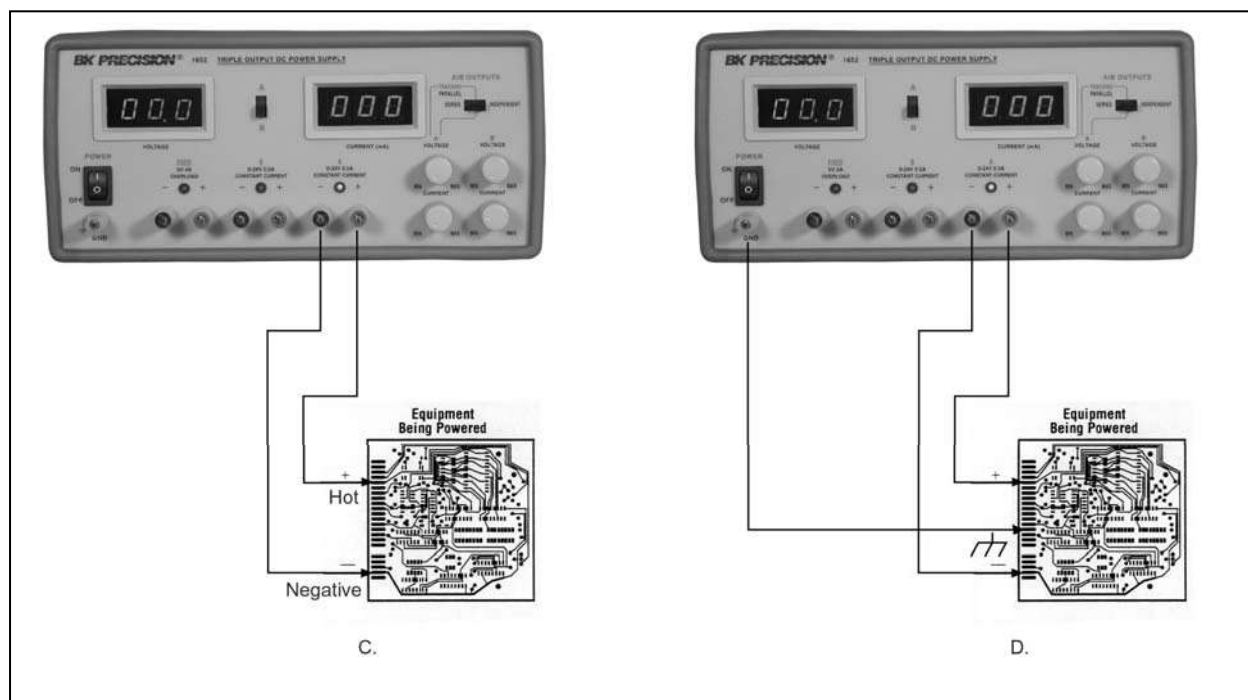

Figure 9. Parallel tracking operation grounding possibilities (sheet 2 of 2).
8. Fig. 9 illustrates the grounding possibilities when used in the TRACKING PARALLEL mode.